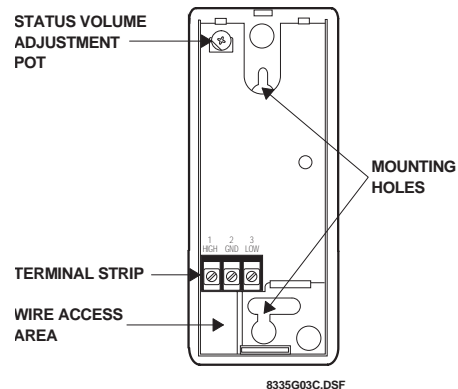

Figure 2. Mounting Hole Locations
- 2) Place the back of the siren against the wall in the desired location and mark the two mounting hole locations (see Figure 2).